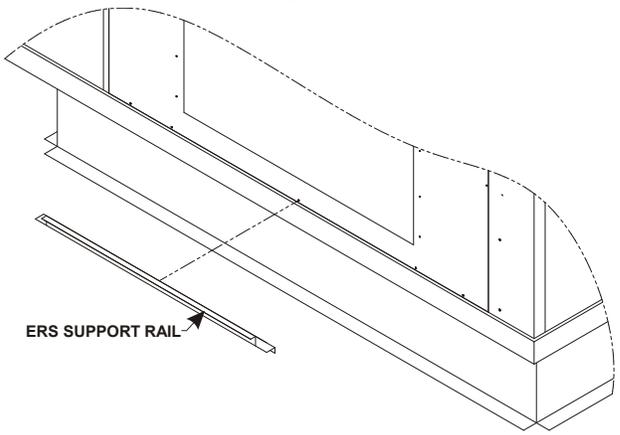

Figure 9
14. Position ERS support rail with notched flange pointing away from rooftop unit. Center ERS support rail by using the center hole in the base of rail and aligning it with the center hole in the base pan of the return opening. Use (5) of the 14-16 x $\frac{3}{4}$ " screws provided to secure rail to base of unit. Apply $\frac{3}{4}$ " x $1\frac{1}{4}$ " gasket along face of the ERS support rail. **See Figure 9.**